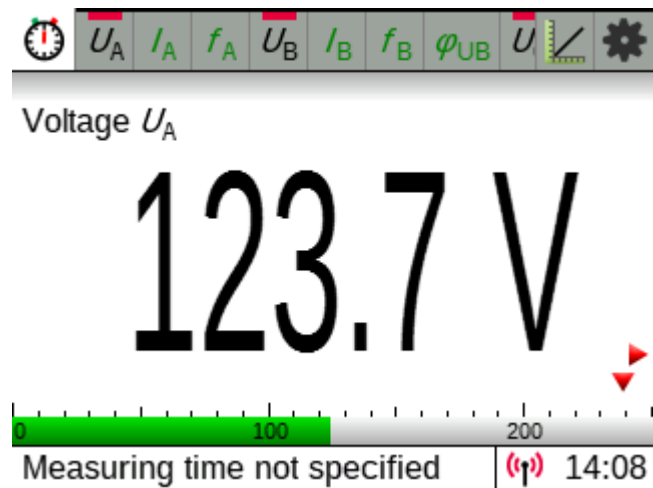

Fig. 3: Display with measured variables switched on.
- If the desired measurand is not displayed automatically, select the measurand in the displayed menu bar and activate or deactivate it with **OK**. An activated measured variable is marked with a small red bar in its list entry (see fig. 3).